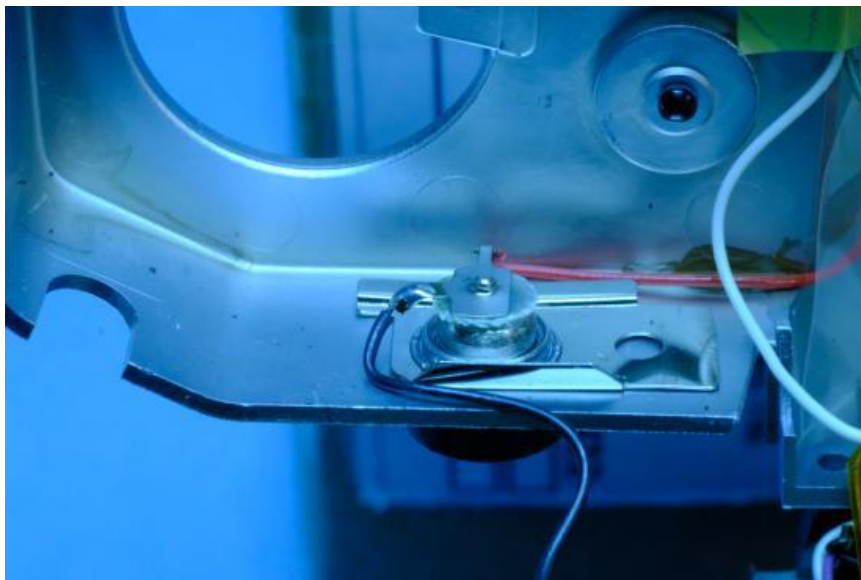

Fig. 1
- 4 - Unsolder the black wire from the P.C. sync terminal (fig. 1)